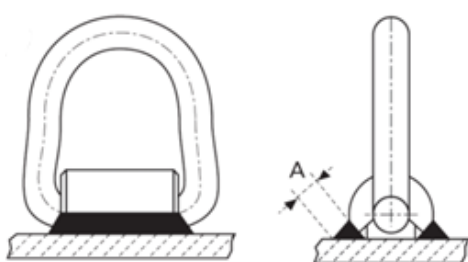

Figure 8: Minimum throat (A).
4. Hold the welding torch or electrode at 45 degrees (see figure 8). Maintain this angle during welding to obtain sufficient penetration.